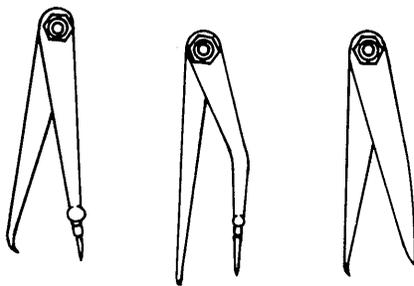

Figure 3-27. Hermaphrodite Calipers
(4) Hermaphrodite calipers. The hermaphrodite calipers have one straight leg ending in a sharp point, as shown in figure 3-27. On some models this point is removable. This leg is usually bowlegged. This caliper is used for finding shaft centers or locating shoulders.